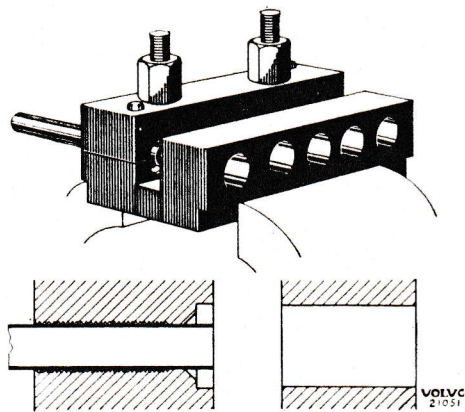

Fig. 26. Flaring brake pipeline.
2. Place the tool SVO 2049 in a vice. Insert the pipe so far that its end is level with the clamp jaw as shown in Fig. 26. Tighten the nuts.